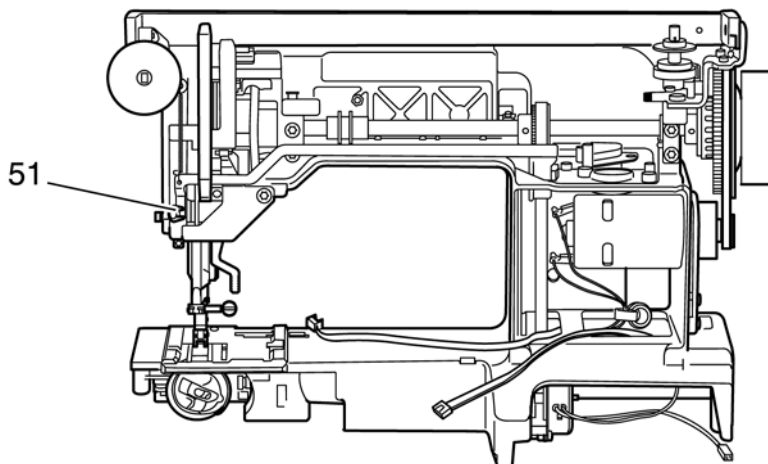

Fig. 30
- Remove Benzing circlip 51 on the needle bar frame (fig. 30).
- Mount Benzing circlip 51 (fig. 30).